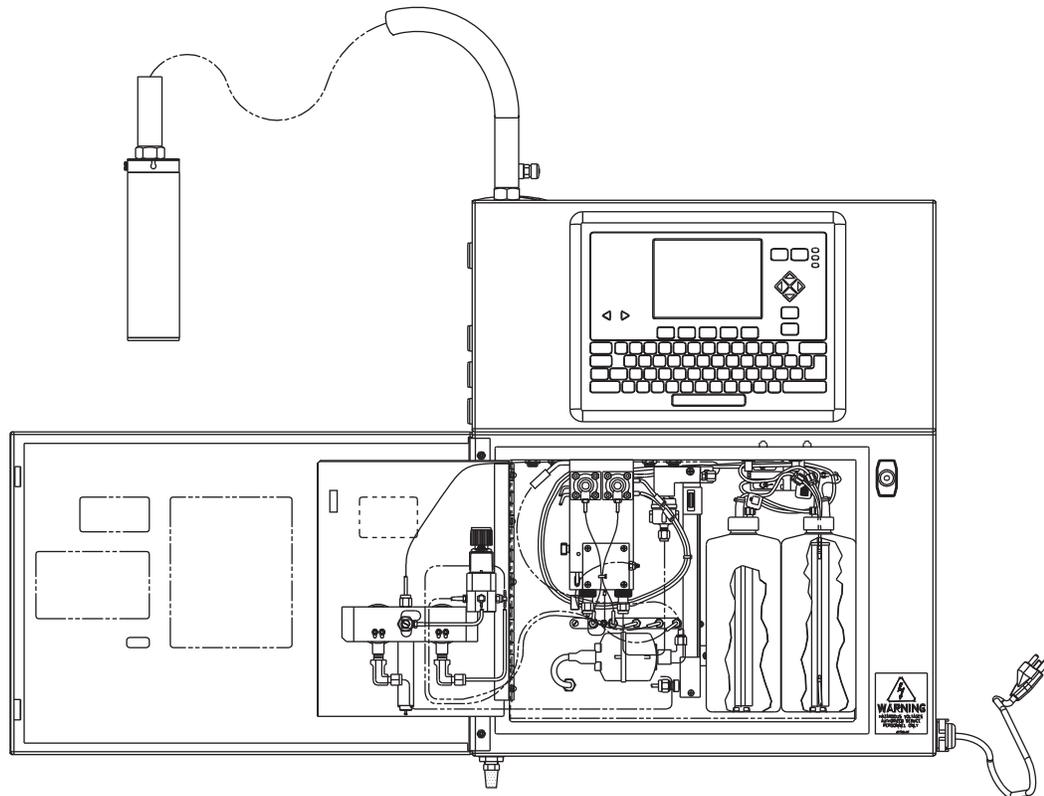

Figure 8-7: Ink System Compartment
- 1 Open the door of the ink cabinet (Figure 8-7).